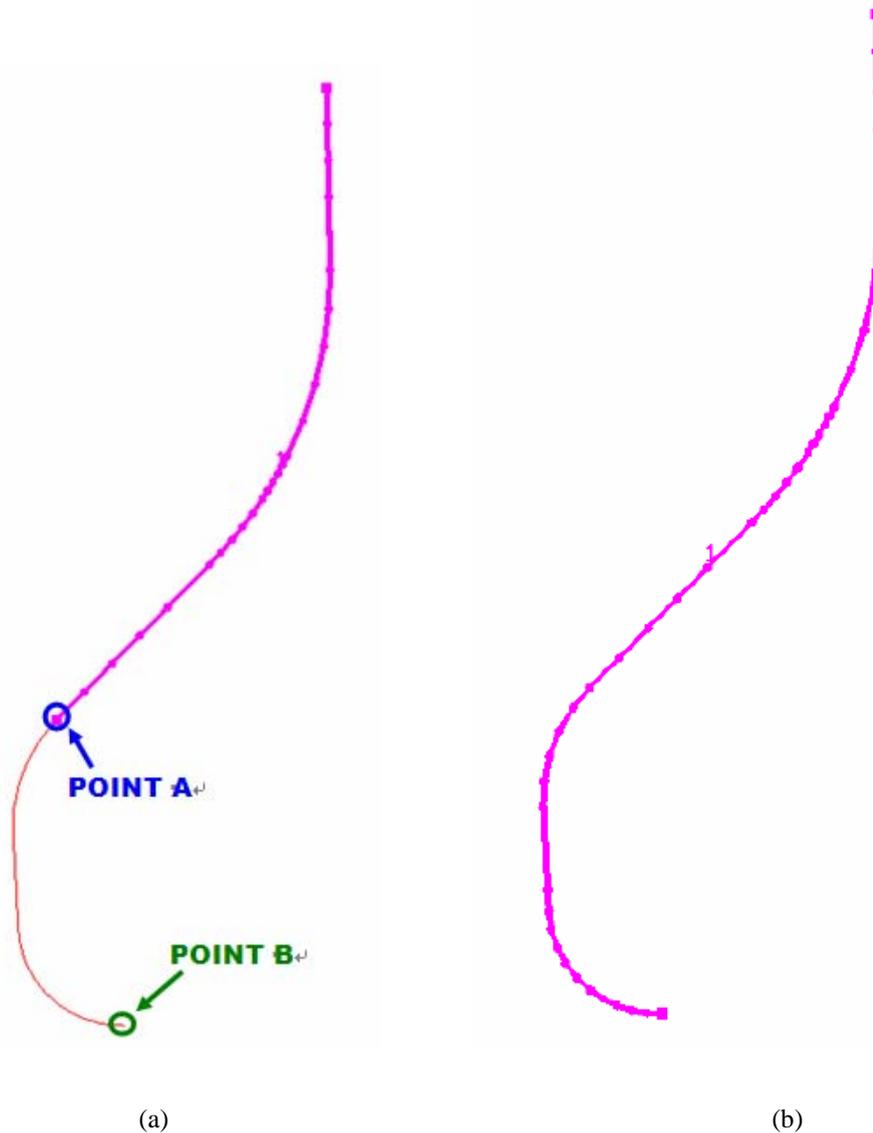

Figure 9.4.15 Trim Drawbead (a) Before trim (b) After trim
NOTE: The *TRIM* function also can be utilized to recover the *TRIMMED* drawbead along the original drawbead line. For example, a drawbead as illustrated in Figure 9.4.15 has been *TRIMMED*. The user can recover the trimmed drawbead.
1. Select the **END POINT A** as illustrated in Figure 9.4.15.